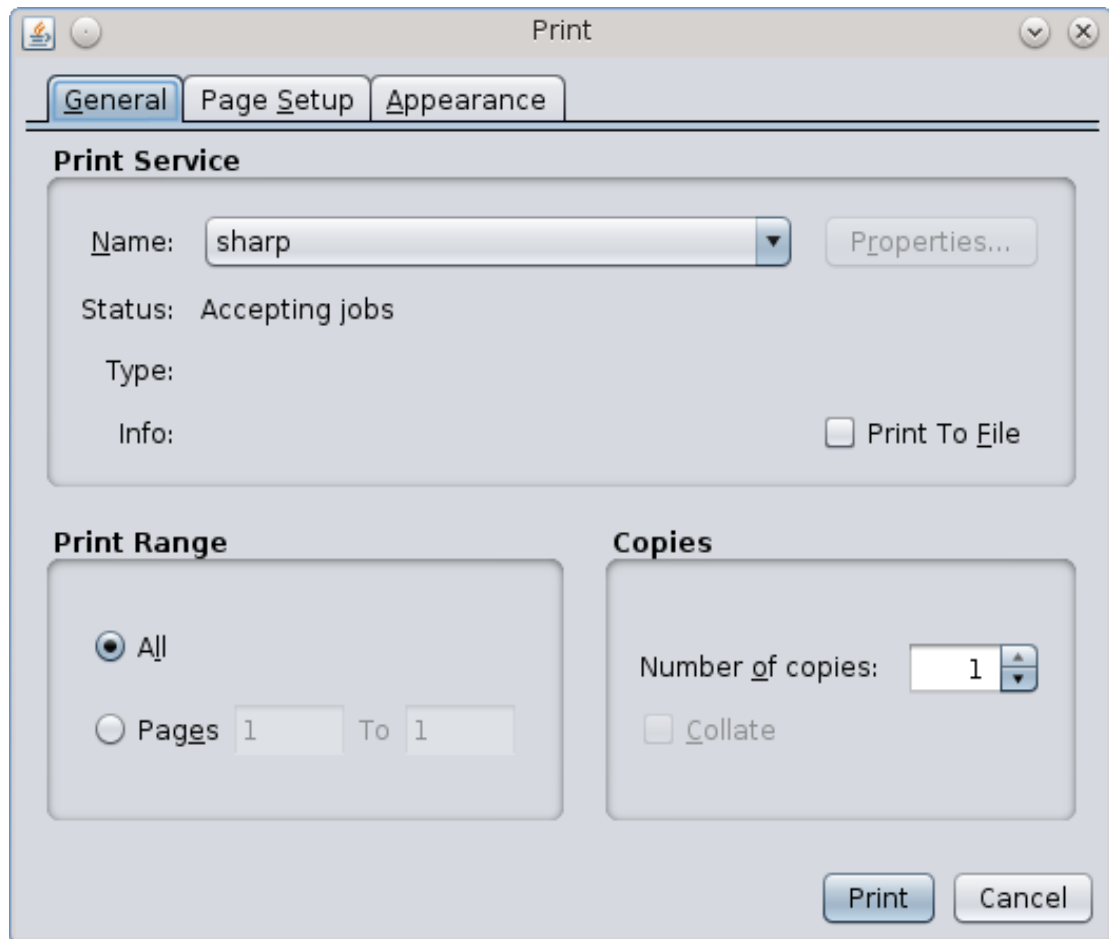

Figure 1.147: Print
1. Open the context menu with the mouse anywhere in a browser table, normally by pressing the right mouse button. Select the action **Print Table...** from the context menu. A dialog is shown that allows you to send the table data to an available printer or to a postscript file (see [Figure 1.147 \[p. 173\]](#)).